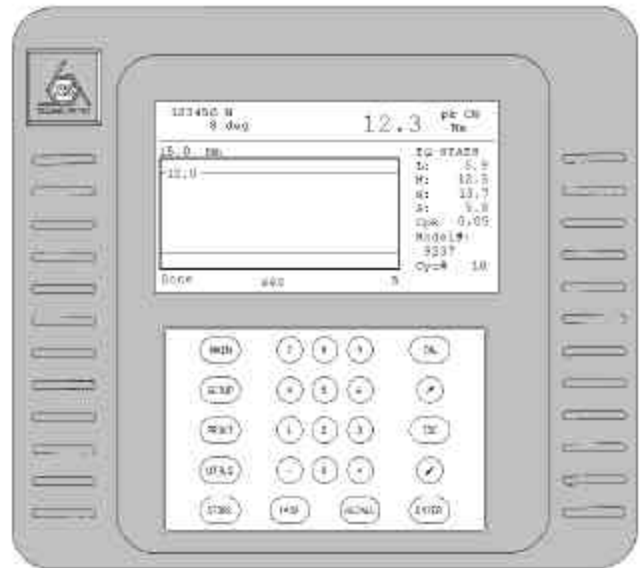

Figure 1. Model 960 Front Panel
2. The instrument then displays the currently selected set of transducers (these may have already been set up for you at the factory). With no load on the transducers, press the ENTER key to proceed. Note the arrangement of the Main Screen when it is displayed. Refer to Figure 1.